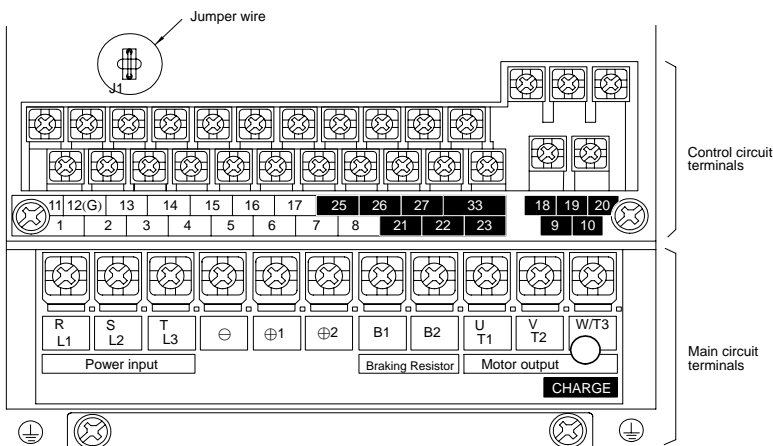

Fig. 6.1 Terminal Arrangement of a 200 V Class Inverter of 0.4 kW
- When the terminal is being used as a voltage input terminal (setting 0 or 1), jumper J1 must be disconnected on the control board. (See Figure 6.1.) The terminal's input resistor will be destroyed if the terminal is used for a voltage input with jumper J1 connected.